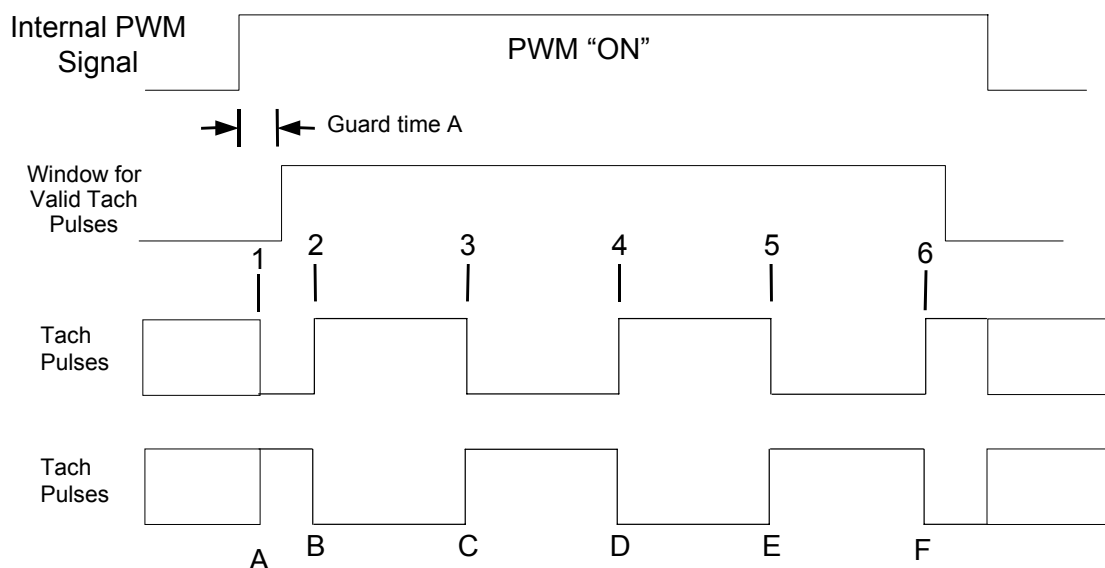

Figure 7.7 PWM and Tachometer Concept
7.1.4.4.1 ASSUMPTIONS (REFER TO FIGURE 7.7, "PWM AND TACHOMETER CONCEPT"):
The Tachometer pulse generates 5 transitions per fan revolution (i.e., two fan tachometer periods per revolution, edges 2→6). One half of a revolution (one tachometer period) is equivalent to three edges (2→4 or 3→5). One quarter of a revolution (one-half tachometer period) is equivalent to two edges. To obtain the fan speed, count the number of 90Khz pulses that occurs between 2 edges i.e., 2→3, between 3 edges i.e., 2→4, or between 5 edges, i.e. 2→6 (the case of 9 edges is not shown). The time from 1-2 occurs through the guard time and is not to be used. For the discussion below, an edge is a high-to-low or low-to-high transition (edges are numbered – refer to Figure 7.7, "PWM and Tachometer Concept").
- 2, 3, 5 or 9 “edges” to calculate the fan speed (Figure 7.7)
- Guard time A is programmable (8-63 clocks) to account for delays in the system (Figure 7.7)
As described in Assumptions \(refer to Figure 7.7, "PWM and Tachometer Concept"\): on page 41, the TACH detection circuitry expects a fan to deliver 5 TACH edges per full revolution. When measuring the fan speed using a PWM drive, the slowest fan speed that can be measured is dependent upon how long the PWM drive is high as well as how many edges are being counted to make a valid measurement.